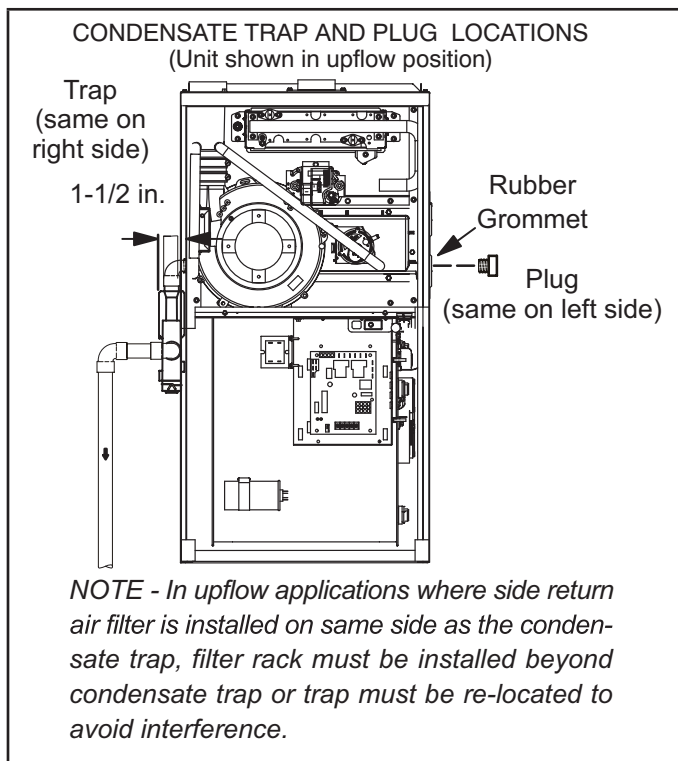
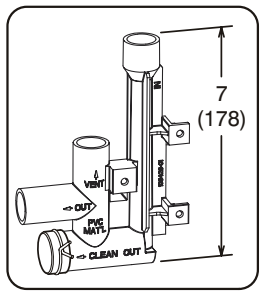

FIGURE 46
FIGURE 54
This unit is designed for either right- or left-side exit of condensate piping in upflow applications. In horizontal applications, the condensate trap must extend below the unit. An 8" service clearance is required for the condensate trap. Refer to FIGURE 46 and FIGURE 48 for condensate trap locations. FIGURE 54 shows trap assembly using 1/2" PVC or 3/4" PVC.
- 2 - Use a large flat head screw driver or a 1/2" drive socket extension and remove plug (FIGURE 46) from the cold end header box at the appropriate location on the side of the unit. Install provided 3/4 NPT street elbow fitting into cold end header box. Use Teflon tape or appropriate pipe dope.
- 3 - Install the cap over the clean out opening at the base of the trap. Secure with clamp. See FIGURE 54.
- 4 - Install drain trap using appropriate PVC fittings, glue all joints. Glue the provided drain trap as shown in FIGURE 54. Route the condensate line to an open drain. Condensate line must maintain a 1/4" downward slope from the furnace to the drain.